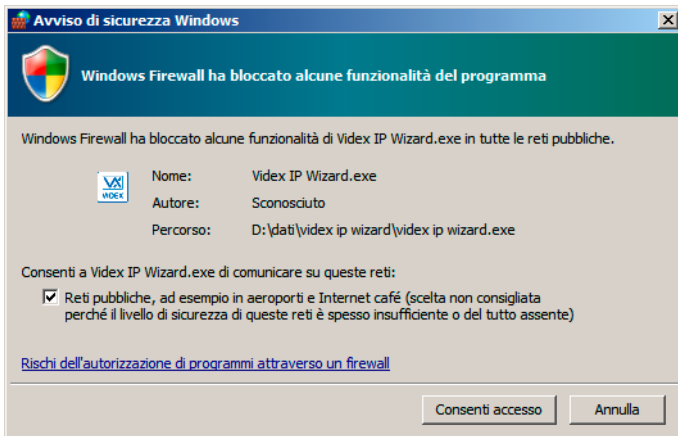

Fig. 2 Windows Firewall Warning
- If windows firewall is running, the first time that you launch the software you may receive a safety warning (Fig. 2): please allow the "Videx IP Wizard.exe" to connect all types of network (local or public).